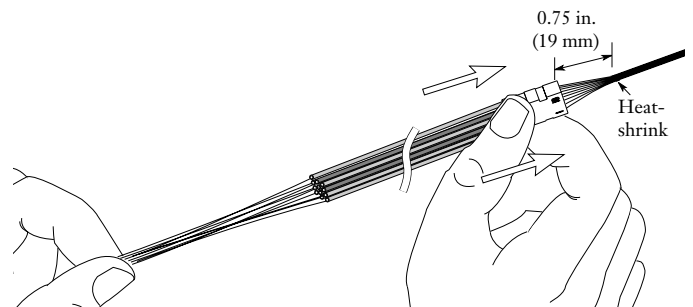

Figure 18
7.6 Untape the 900 μm assembly from the table edge. Carefully slide the assembly (while gently pulling the bare fibers protruding from the tube ends) to within 0.75 in. (19 mm) of the heat shrink on the ribbon (Figure 18).